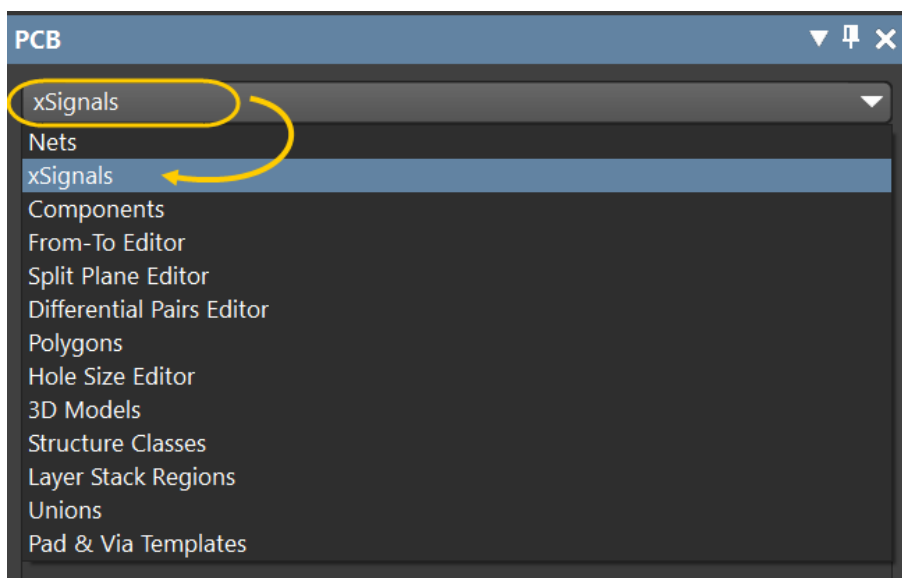

Figure 2. xSignals information from the PCB panel
- a) From the drop-down menu in the *PCB* panel, select **xSignals** as shown in Figure 2.